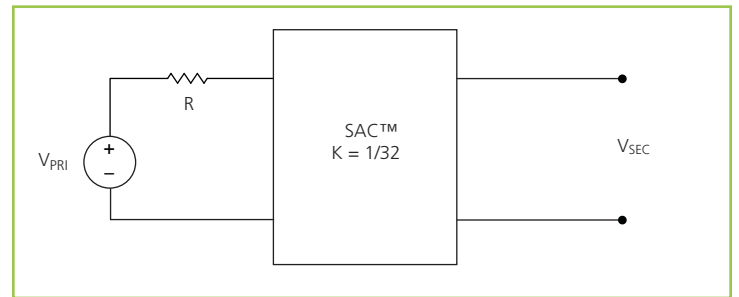

Figure 15 — K = 1/32 Sine Amplitude Converter™ with series primary resistor
The use of DC voltage transformation provides additional interesting attributes. Assuming that R_SEC = 0 Ω and I_Q = 0 A, Eq. (3) now becomes Eq. (1) and is essentially load independent, resistor R is now placed in series with V_PRI as shown in Figure 15.
Assuming that $R = 1 \Omega$, the effective R as seen from the secondary side is $0.98 \text{ m}\Omega$, with $K = 1/32$ as shown in Figure 15.